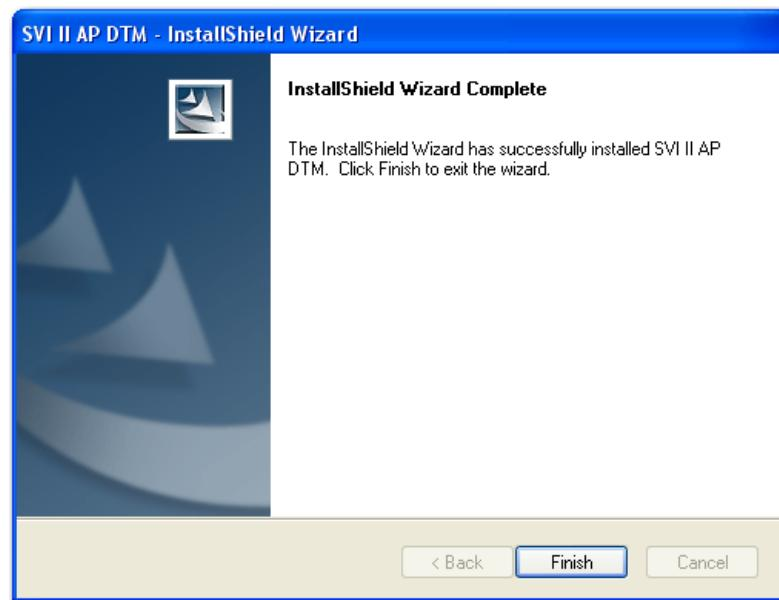

Figure 20 SVI II AP Advanced DTM Finish Screen
5. Click **Install** and a *Setup Status* screen appears, followed by Figure 20.